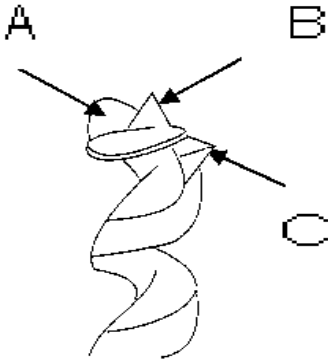

Fig 16
File the inside edge of the spur (A, Fig16), the sides of the centre point (B) and the cutting edge inwards toward the flute of the bit (C)